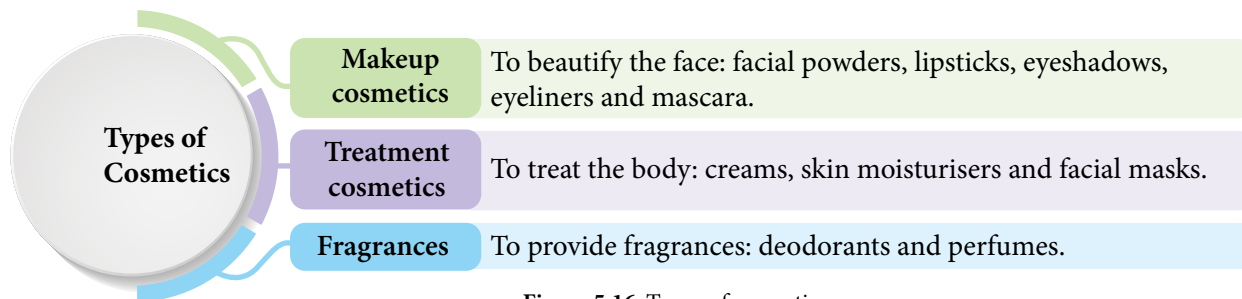

Figure 5.16 Types of cosmetics
- Sales and production of cosmetics in Malaysia are subjected to the Control of Drugs and Cosmetics Regulations 1984 to ensure the safety of all users. There are various types of cosmetics found on the market that can be classified into three main groups as shown in Figure 5.16.